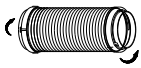
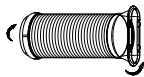

Fig. 18a
Fig. 18b
1. Install the window Exhaust adaptor B onto the exhaust hose as shown in Fig.18a. or Fig.18b. Refer to the previous pages for window kit installation.